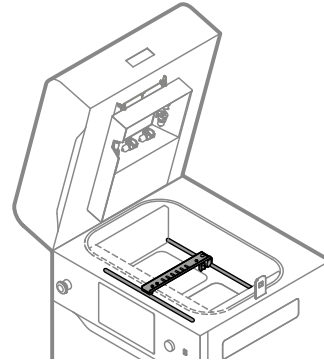

Fig. 10.5 Clean the Recoater roller, the linear bearing and the Recoater's guide bar area.
9. Clean the Recoater roller, the linear bearing and the Recoater's guide bar area from any remaining powder (fig. 10.5). Use brushes and cotton cloths. You may use compressed air, except when removing specialty powders!